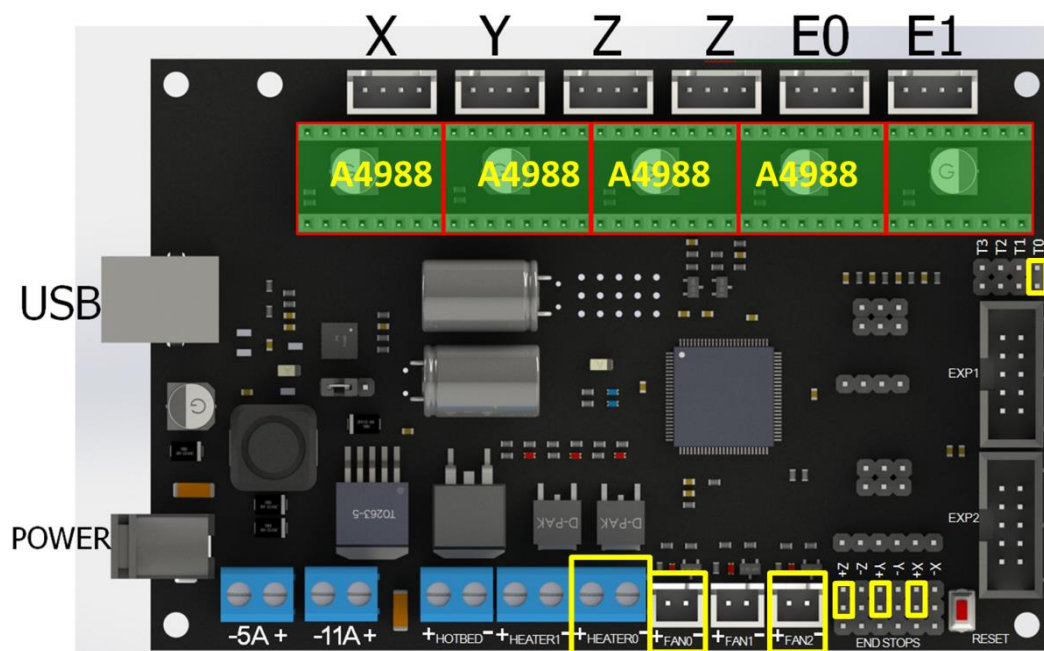
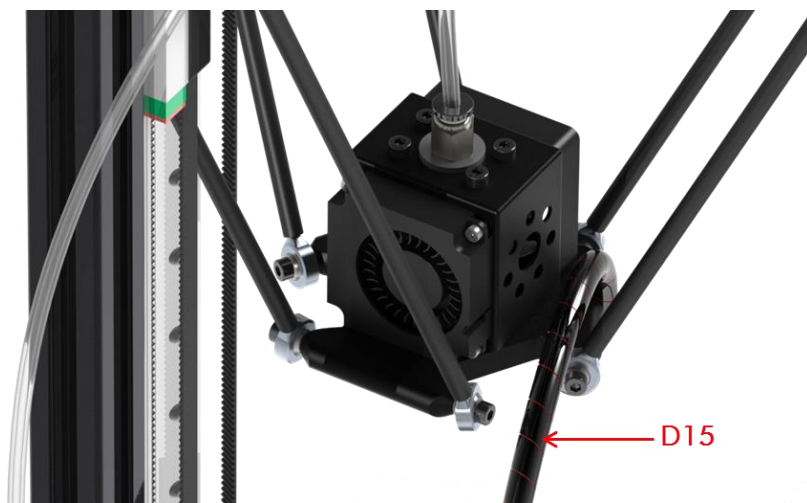

Fig. 30
Fig. 31
The wiring of the mainboard is explained as follows (Figure 30). Before wiring on ANYCUBIC mainboard, please make sure the wires on effector passing through the carbon fiber tubes, as shown in Figure 31.
- b. **Limit switches (ENDSTOPS):** please see the bottom right in Fig. 30. 1. X+ wire to X motor limit switch; 2 Y+ wire to Y motor limit switch; 3. Z+ wire to Z motor limit switch.
When wiring is finished, use straps (D15) to arrange the wires from printing head, as shown in Fig. 31. The wire-cluster could be fixed to one of the carbon fiber tubes by ribbon, but **do not let it to restrict or interfere with the motion of the printing head.**